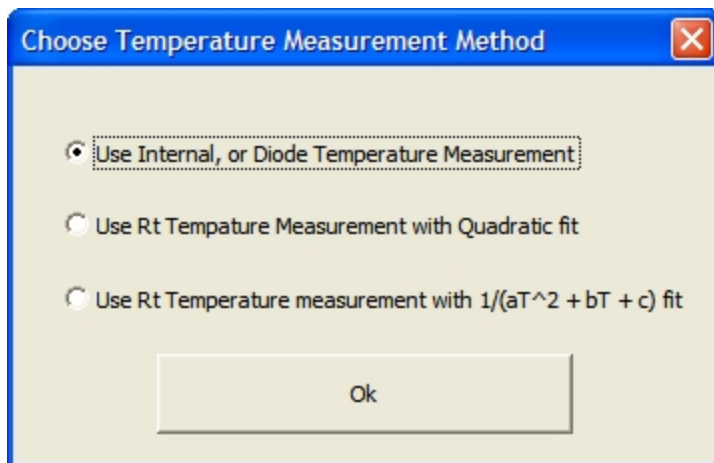

Figure 40: Choose Temperature Calibration Method
- E) Select the appropriate Temperature Calibration Method (see Figure 40).
4) For the example shown, highlight the cell C25 (VoutMeas @ Pmin, Tmeas1) and click the button “Vout Reading” or enter the measured voltage by hand (Figure 40). The example shown is for three pressures three temperature calibration. Other calibrations are done in a similar manner, but the number of readings required and the cells used will differ.
- 6) Place the Sensor + PGA309 at the temperature Tmeas2 and repeat the Steps 3, 4, 5 entering the values to the corresponding cells below the ones shown in Figure 40. At each stage make sure the signal path of the PGA309 is not overloaded by reading the state of the Alarm Register.